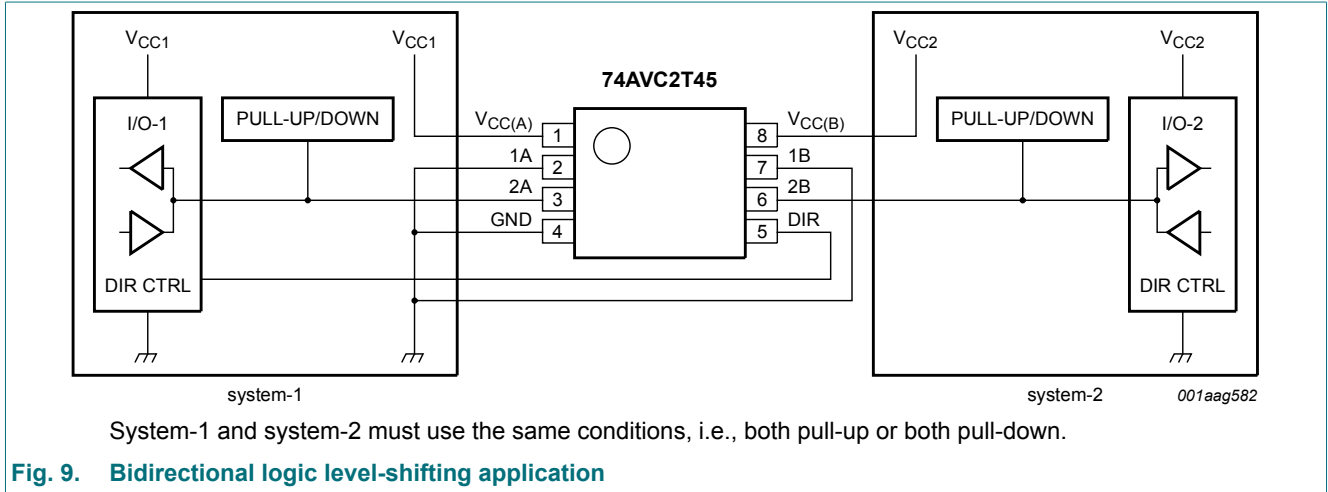

Fig. 9. Bidirectional logic level-shifting application
Fig. 9 shows the 74AVC2T45 being used in a bidirectional logic level-shifting application. Since the device does not have an output enable (OE) pin, the system designer should take precautions to avoid bus contention between system-1 and system-2 when changing directions.